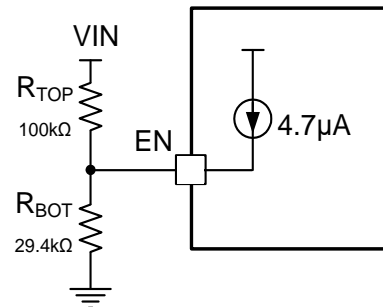

Figure 6: V_{IN} UVLO Program
The MPQ4214 features a programmable UVLO hysteresis. When powering up, EN sources a 4.7 μ A current out of the EN pin once the EN voltage exceeds 1.35V (see Figure 6). V_{IN} must decrease to overcome the current source and stop switching after the IC starts. The V_{IN} start and stop switching thresholds are determined with Equation (1) and Equation (2), respectively: